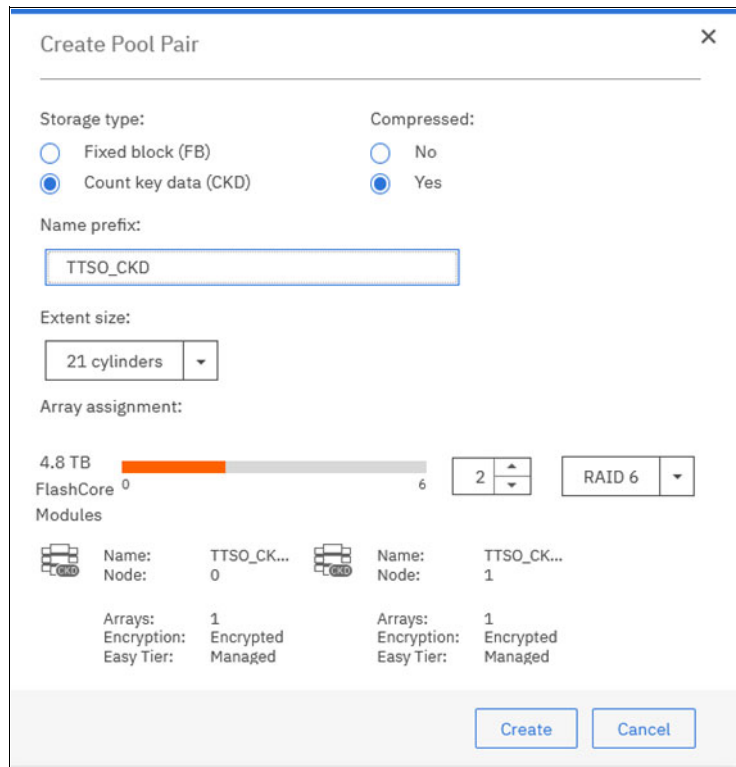

Figure 9-66 CKD pool pair creation and assigning arrays to the pool pair
3. Click the **Create Pool Pair** tab. The Create Pool Pair window is opened as seen in Figure 9-66 on page 274.